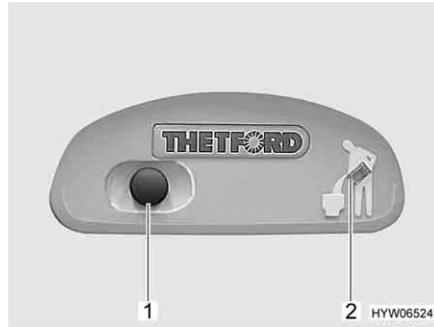
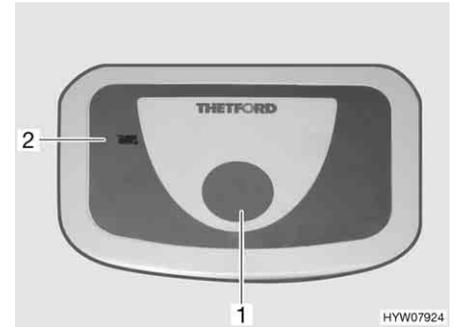

Fig. 220 Flush button/indicator lamp Thetford toilet
Fig. 221 Flush button/indicator lamp Thetford toilet (alternative)
- For flushing, press the blue flush button (Fig. 220,1 or Fig. 221,1).
The indicator lamp (Fig. 220,2 or Fig. 221,2) goes on whenever the sewage tank has to be emptied.